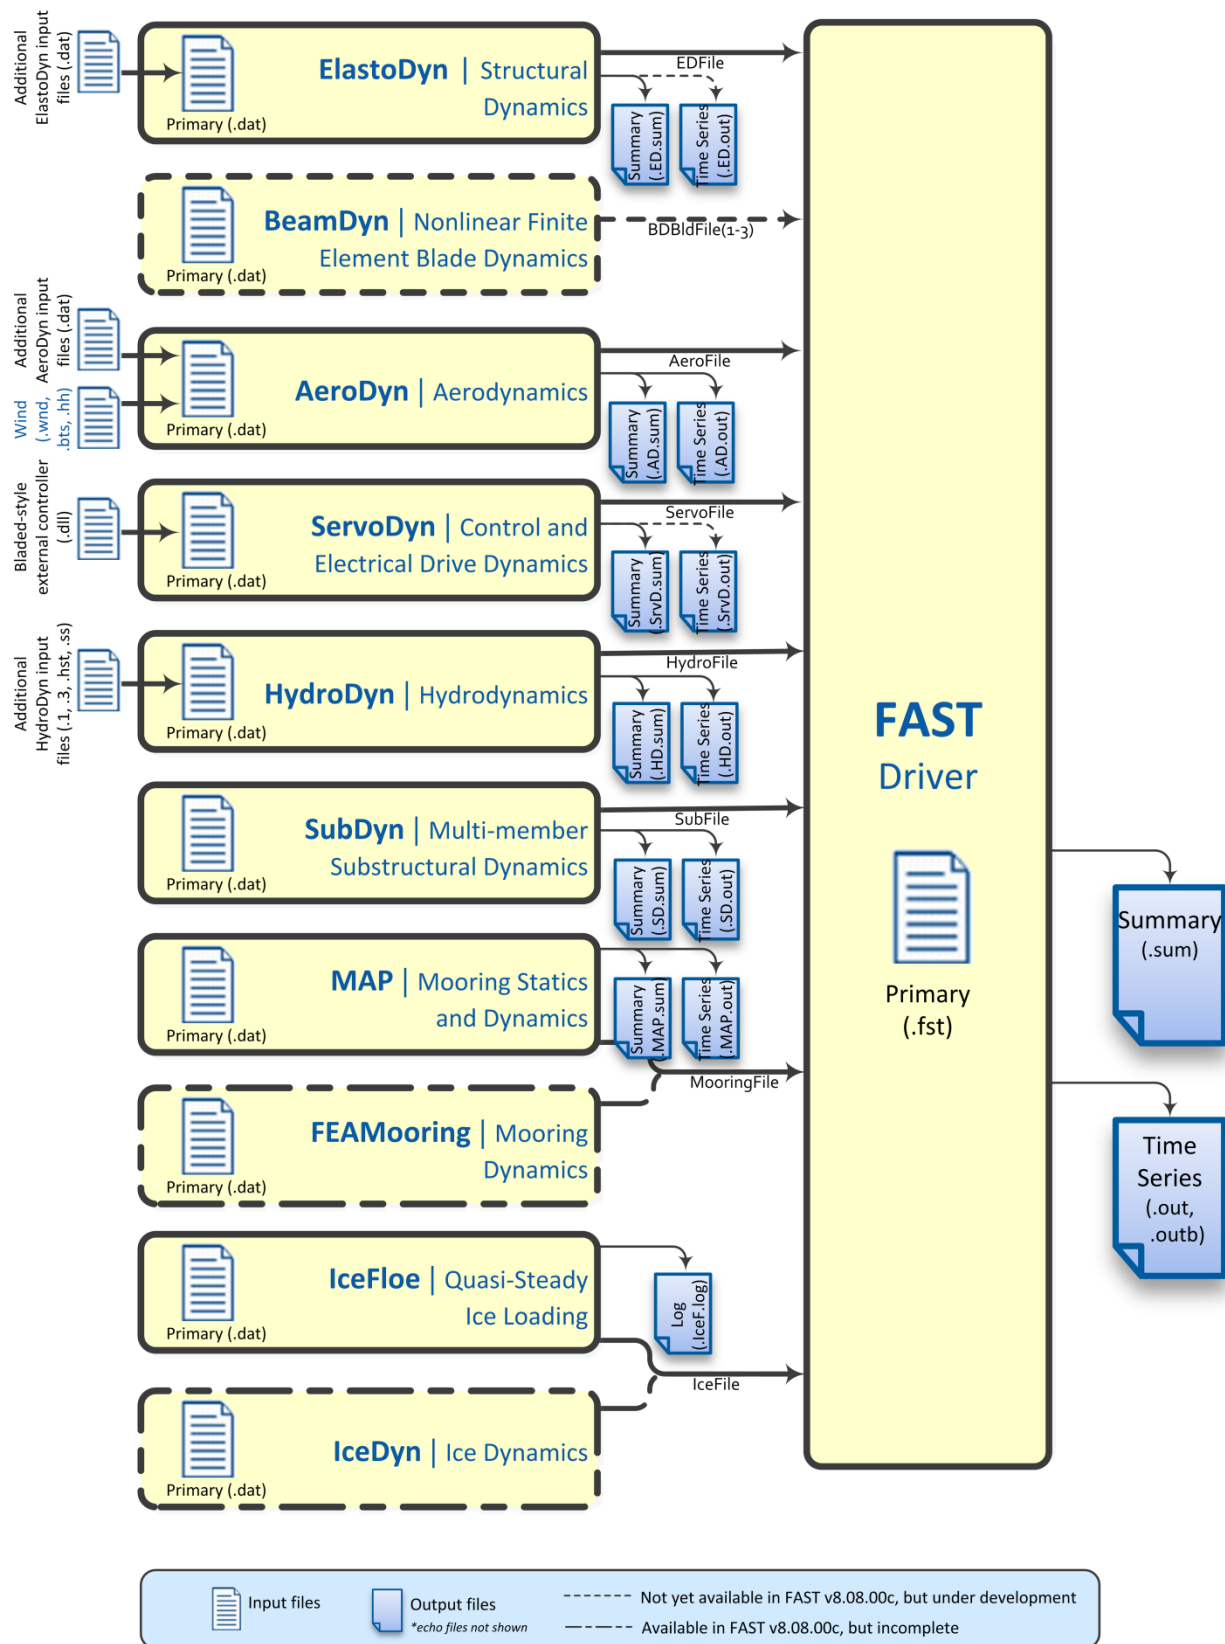

Figure 4: Summary of Input and Output Files for FAST v8.08.00c-bjj
- The names of output files generated by both FAST and its modules have been standardized, see Figure 4. Files generated by FAST are named
FAST and each of its modules, except InflowWind, have their own input files; see Figure 4.